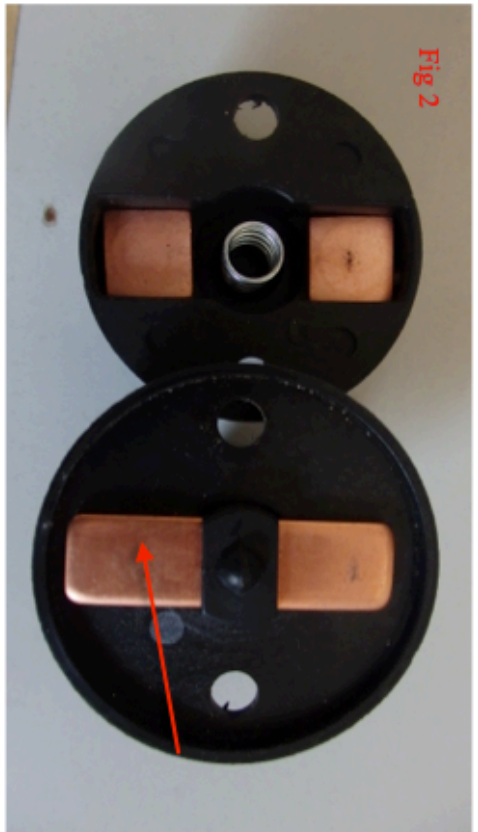
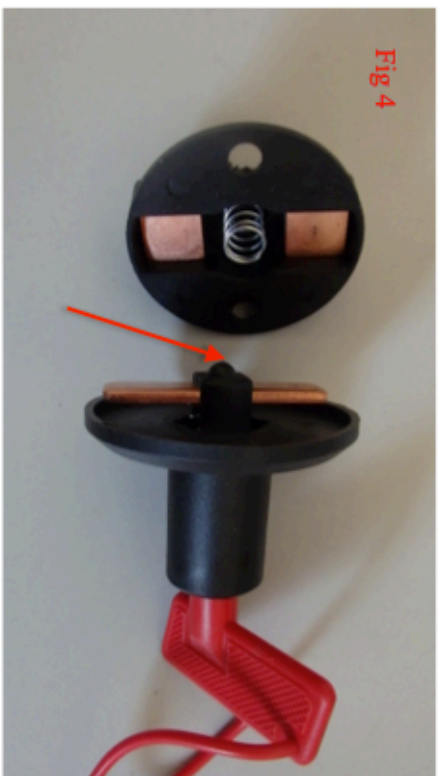

Fig 2
Fig 4
- (1) The contacts as shown in the figures are not in any way corroded – in fact they look a bit too clean to be a moderate to high current switch ! Fig 2 shows evidence of contact touching on the upper contacts. Signs of good contact are not readily visible.
(4) Fig 2 shows what may have been the problem. The upper contact is not central, arrow points towards the longer side. Fig 4 the arrow points to the small moulded pin that holds the moving contact, through a small hole in the contact, in its fixed position. Clearly the moving contact while not being central is so close to the lower edge of the case that it may well snag and jam thus preventing closure. My feeling is this may be the main problem.